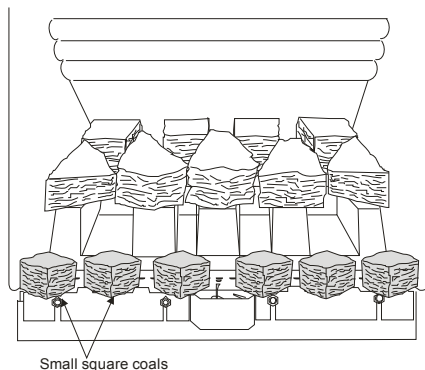

Figure 25
6. Unpack the bag of **Small Square Coals** and starting from left hand side press each coal gently onto the spike diagonally approximately 15mm into the tray. Ensure that the flat smooth surface of the coal is on the top. Also ensure that none of the holes are blocked. The coals should be pressed in all the way and there should be small gaps between the coals (see **Figure 25**)